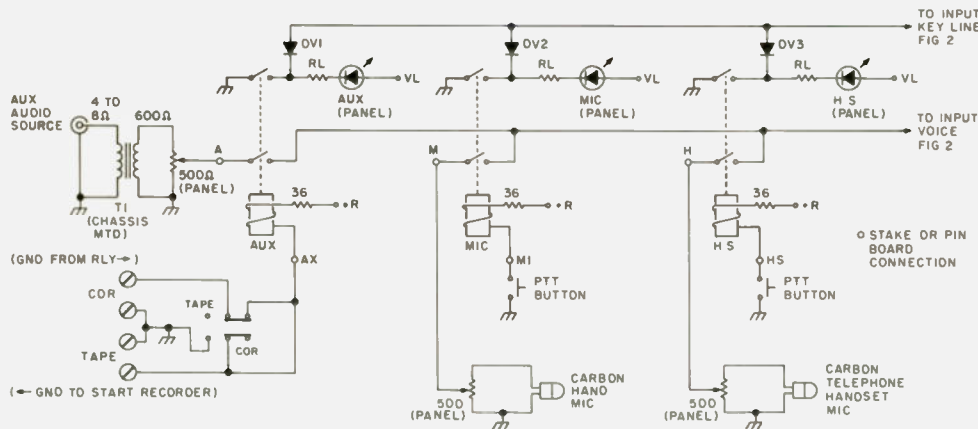
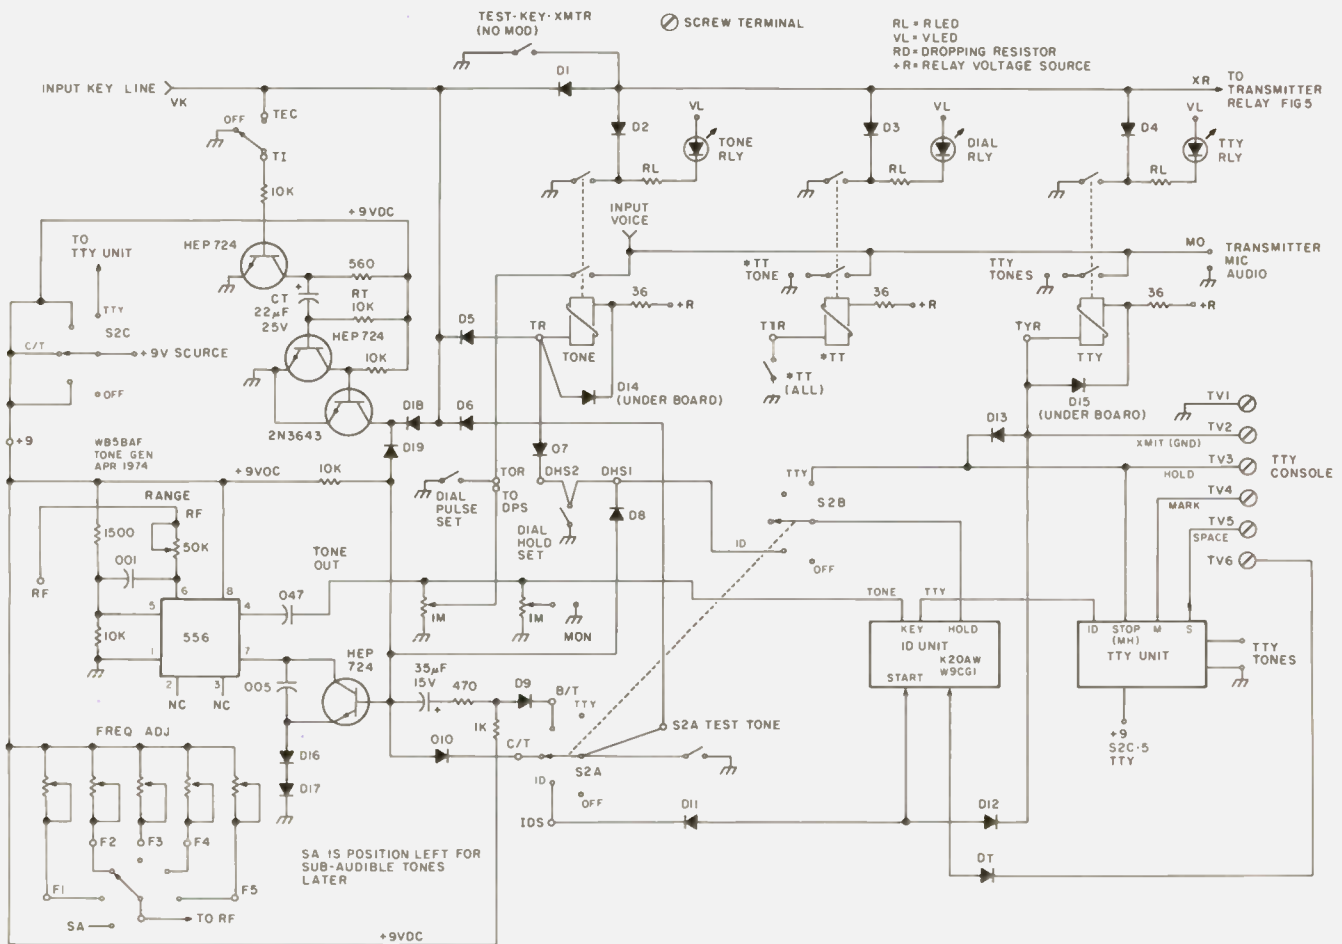
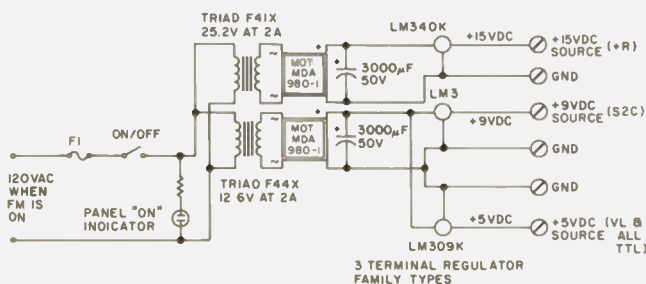

Fig. 1. Voice unit.
Fig. 2. Tone unit.
Fig. 4. Power supply.
The circuit schematic is pretty straightforward in the area of the relay controls and the relays themselves. They merely switch the keying line to ground, with the top set shown, and place audio into a common audio microphone input audio line through the bottom set. It is the control of these relays and the tones, voice, etc., that is the heart of this equipment. I will try to show here what goes on by taking one function or mode at a time, working from the left of Fig. 1, the voice circuits, through the right of Fig. 2, the tone circuits.
Beginning with the left of Fig. 1, I wanted a means of
This completes the voice circuits — very simple — and takes us to Fig. 2 — not so simple. Skip over the circuit marked TEC for a minute, as it has rather broad implications over several of the tone circuits. Follow the key line to the right where diodes D1, D5, and D6 are located. D1 allows any of the voice circuits to close the key line regardless of the tone relays in or out (total voice control), but not the reverse. You can talk over or with any of the tones you care to. D5 keys the tone relay on whenever a voice circuit line closes the key line to ground (i.e., each time the microphone is keyed). D6 feeds the tone
takes over control as follows. IC4 of the ID board places a TTL high hold output command on the hold input of the control board (HI). This is fed to Q3 of the control board, where it is inverted into a ground command. It then goes back to the main ESP unit, Fig. 2, via the HO pin to the center arm of S2b. In the ID mode, it is used to hold in the tone relay via D7 and the tone oscillator via D8. In the TTY mode, it goes to the TTY control board, which will be discussed under RTTY.
Keying of the tone on ID function is accomplished by using the low-going pulses from IC1, pin 8 of the ID board to turn off Q2. When on, Q2 shorts out the tone output via C1. C1 line (tone) is connected in Fig. 2 as the key-tone line out of the ID unit block. Q2 has its emitter returned to the Q3 collector rather than ground, to avoid the audio line being shorted out in other functions than ID. It goes through Dp to protect the base-emitter junction whenever the collector of Q3 (hold line) goes back to relay voltage (+R). The
My pad is wired up as described in one of the many articles now out, so I did not include that here. The tones from it couple into the ESP unit at the pins marked TT tones on Fig. 2. The ground on any key pushed goes to the TT all on Fig. 2. Be sure to use one that has a level control and is ac coupled out to the outside world. The pad runs nicely off the +9 V dc regulated from the supply (see Fig. 4).
Now we come to the part that started the whole project. If you have ever run RTTY, you can understand why. At the right of Fig. 2 are 6 terminals on the back of the ESP unit. My tone unit is
of the ID unit trying to ID. The hold-ground via D13 prevents partial IDs from occurring. Diodes D14 and D15 in Fig. 2 are field collapse diodes across relays to protect transistor keying devices (transistors) from being reverse pulsed. They have nothing to do with any of the diode steering and control diodes.
Mark and space normal TTY tones are produced just as the hold tone is generated. Whenever pin 3 of IC1 for mark or pin 6 of IC1 for space is driven low by the TVT inputs going high, the proper tone is allowed through the output pins 3 and 6 of IC2 and is sent to the filter. This filter is just like the one used by K20AW in his IDer article. The filter output feeds the TTY tone terminals of Fig. 2.